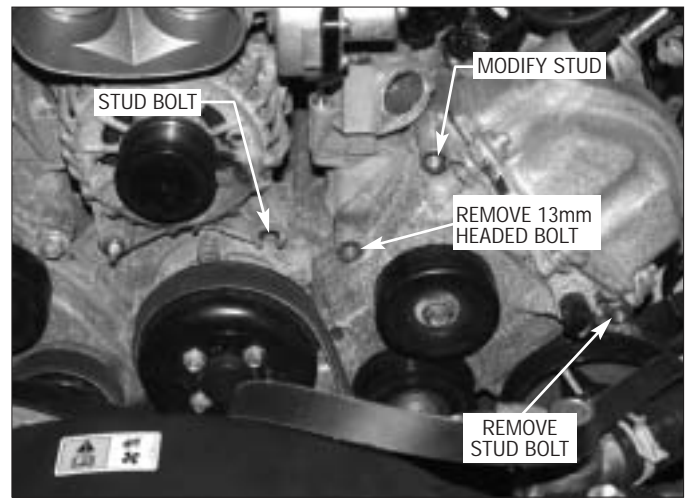

Fig. 1-j
- Q.** There is a small tab that secures the wiring harness in place on the valve cover that will need to be removed to gain clearance for the supercharger belt. This tab is best removed with a small air saw but a grinder will work. After removal, smooth the area to prevent damage to the belt. (See Figs. 1-k, 1-l.)